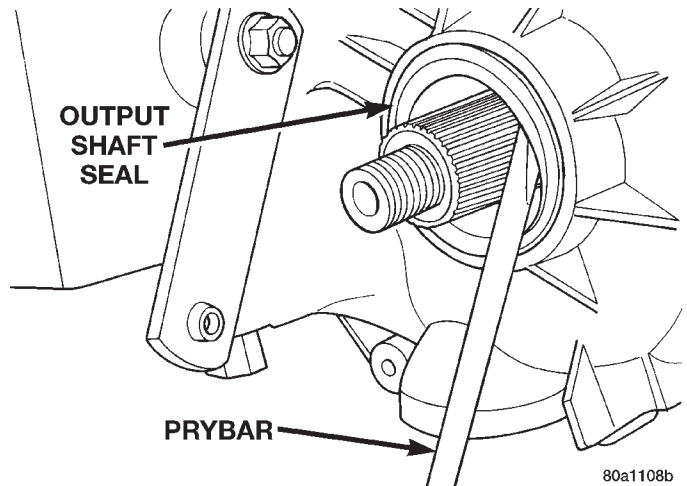

Fig. 40 Front Output Seal Removal
(1) Remove the front output shaft seal from case with pry tool (Fig. 40).